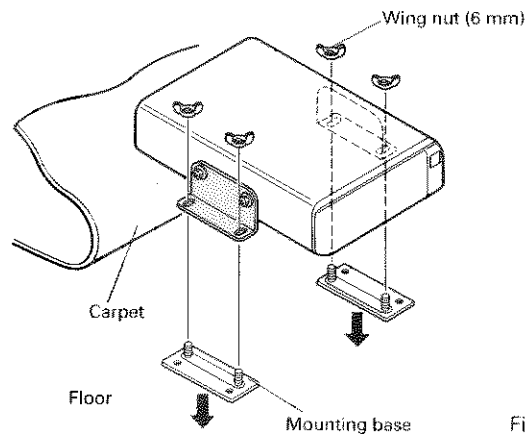

Fig. 3
3. Pass the screws on the mounting base through the holes in the brackets and temporarily fix the screws with the wing nuts. Turn up the carpet where the player is to be mounted and place the mounting base on the floor. (Fig. 3)